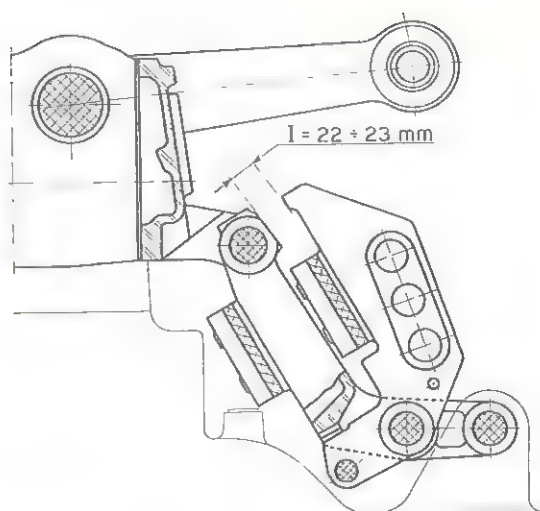

Fig. 55. - Checking play I between upper link support and lift cover.
- d) *Setting the top link support spring (M)*: should reconditioning or replacement of parts be required check the clearance (I, fig. 55) between top link support and lift cover to be 0.866" to 0.905" (22 to 23 mm), if not vary the number of adjusting shims (H) installed between the spring and its support. To check the play use the end of smallest block of the «go-no go» gage C 497015; the other end of the gauge may be used in the preceding check to keep the support in the position reached when the play is taken up to check the distance between roller and sector applied to the right arm.